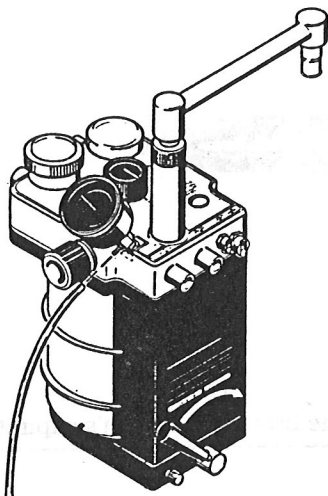

Figure 2-9
1. A barbed connector on the absorber's pressure gauge provides the distal-sensing tee for the ventilator's pressure sensor. Slide one end of the sensing tube onto the tee's barbed fitting. (See figure 2-9.)